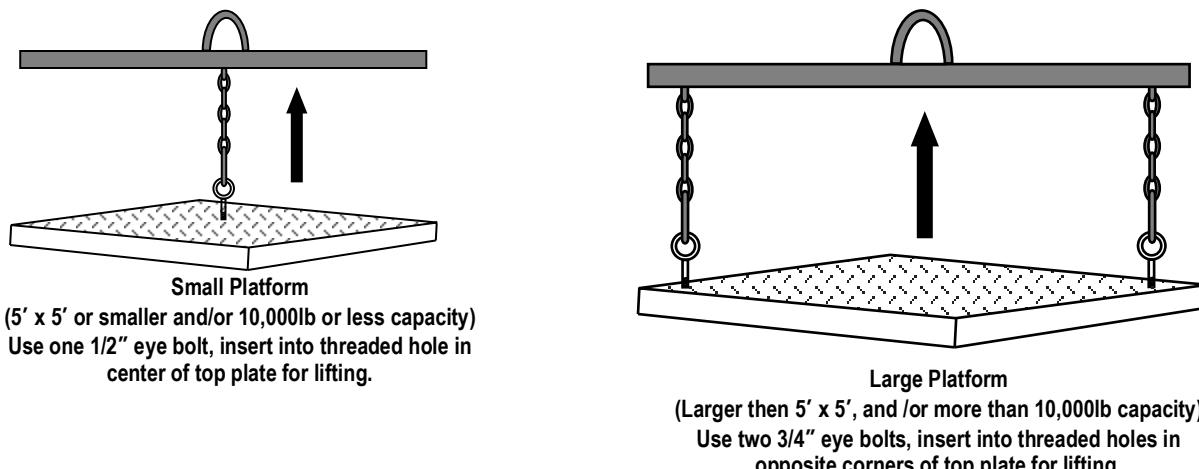

Figure 2-1. Proper Lifting Technique
**IMPORTANT:** Lift the scale only with a properly designed spreader bar as shown in Figure 2-1.